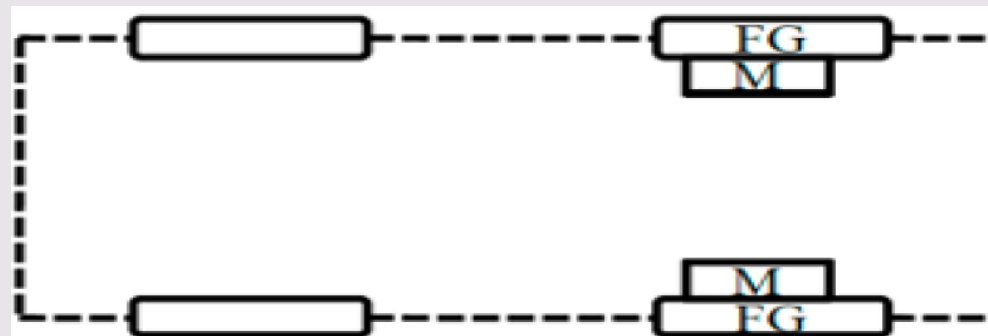

Figure 3e: EV configuration with in wheel motor and mechanical gear
- **Figure 3e** • In order to shorten the mechanical transmission path from the EM to the driving wheel, the EM can be placed inside a wheel. This configuration is called in-wheel drive. **Figure 3e** shows this configuration in which fixed planetary gearing is employed to reduce the motor speed to the desired wheel speed.